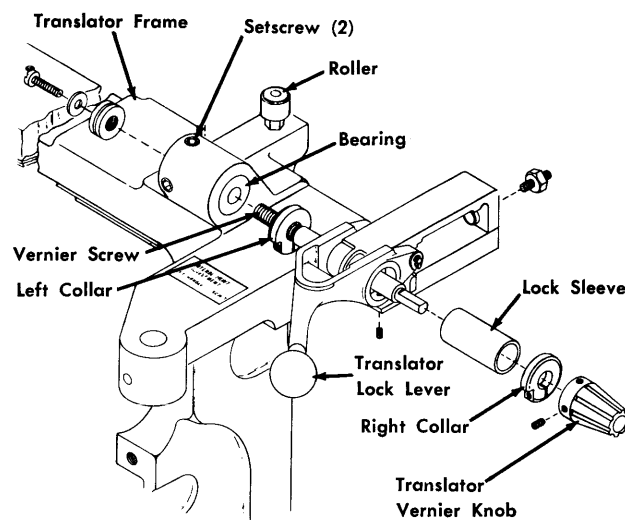

Figure 5. Translator Vernier
1. Clamp the translator vernier knob against the shoulder of the vernier screw (Figure 5).
4. Check for a bind between the bottom of the vernier screw and the lock sleeve of the translator vernier (see Figure 5).